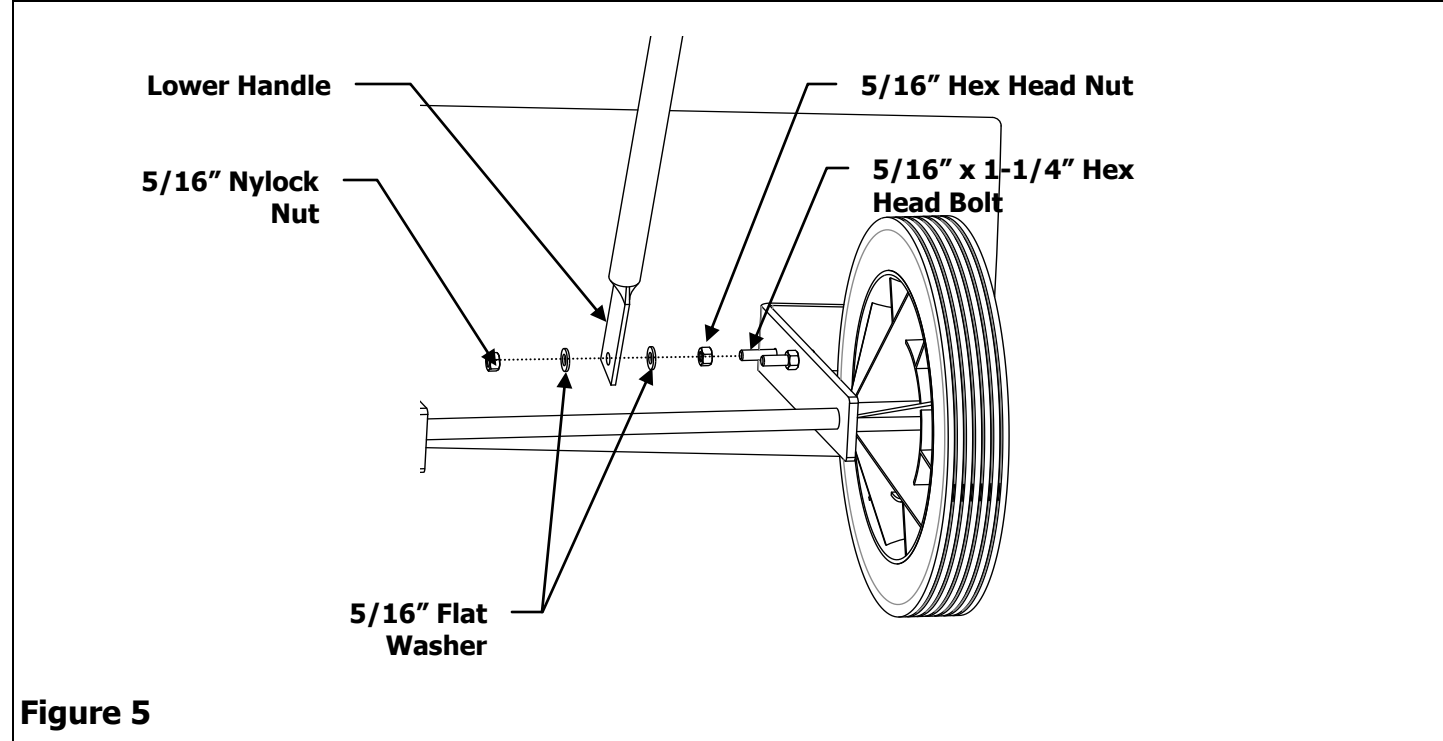

Figure 5
5. Insert a 5/16" x 1-1/4" Hex Head Bolt into the front hole of either the Long or Short Bracket, secure with a 5/16" Hex Head Nut. Place a 5/16" Flat Washer onto the bolt, followed by the Lower Handle and then another 5/16" Flat Washer. Secure with a 5/16" Nylock Nut. Repeat process on the other side. See Figure 5.